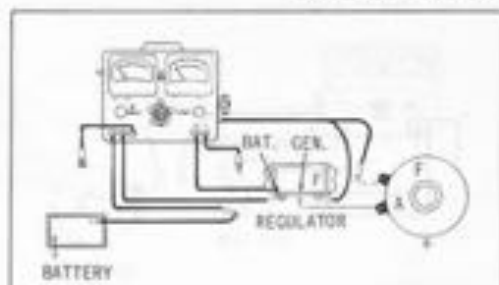

Figure 51-10.
E. TESTING VOLTAGE CONTROL UNIT SETTING (FIG. 51-10)
Same connections are used as in previous Test D except move Positive voltmeter lead to regulator battery "BAT" terminal and remove grounded lead of the field control variable resistor and connect to regulator field "F" terminal. (See Fig. 51-10)
Use same connections as previous Test E, Voltage Control Test. (See Fig. 51-10).